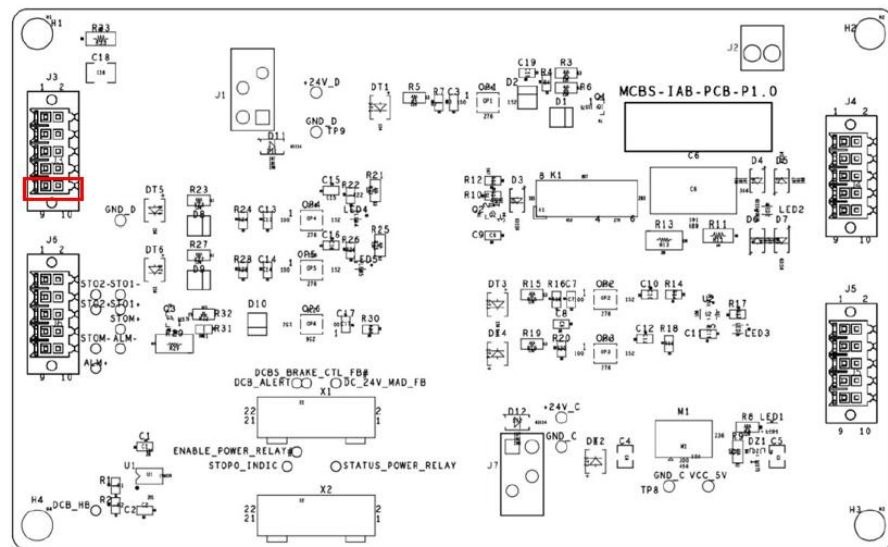

Figure 5-5: IAB Interface PCB
- Step 2. Insert the removed loosen brake wire into pins 9 and 10 of the J3 interface on the IAB interface circuit board, as shown in Figure 5-5;